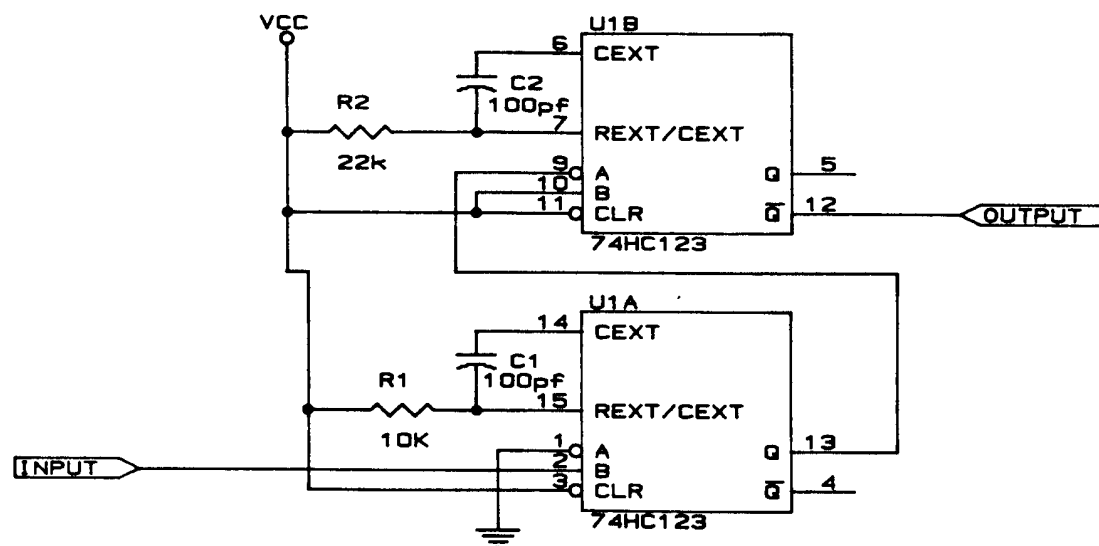

Figure 1
The circuit in Figure 1 is the fix only and does not include the rest of the circuit needed to make the complete parallel adapter. The 74HC123 chip requires +5 volts on Pin 16 and ground on Pin 8. To interface it into the rest of the original circuit, follow these instructions:
- 2) Connect that wire to the point marked "input" in Figure 1.
- 3) Connect the wire marked "output" in Figure 1 to Pin 1 of the printer connector left vacant by Step 1.